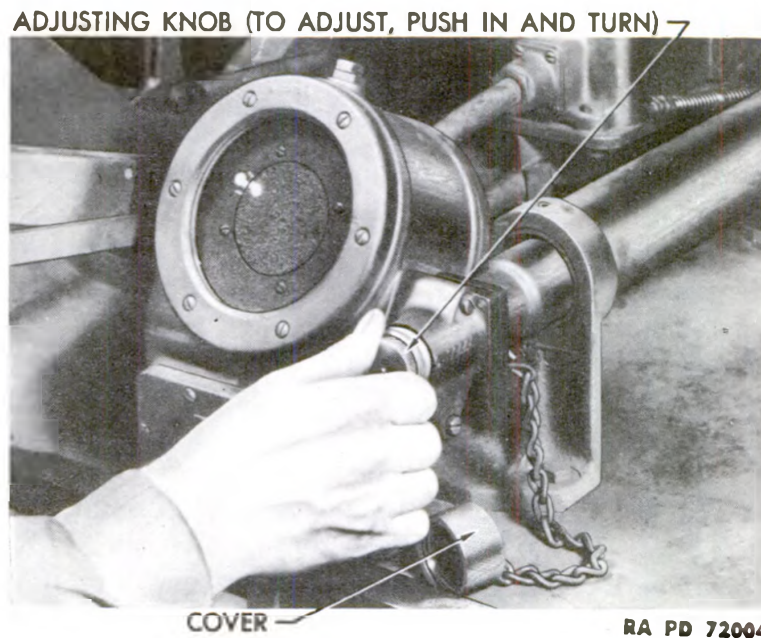

Figure 181 – Making Azimuth Indicator Adjustment
- (g) Observe the azimuth indicator. The two white markers should be alined (or the dial blacked out) (fig. 181).
- (3) **ORIENTING IN ELEVATION.**